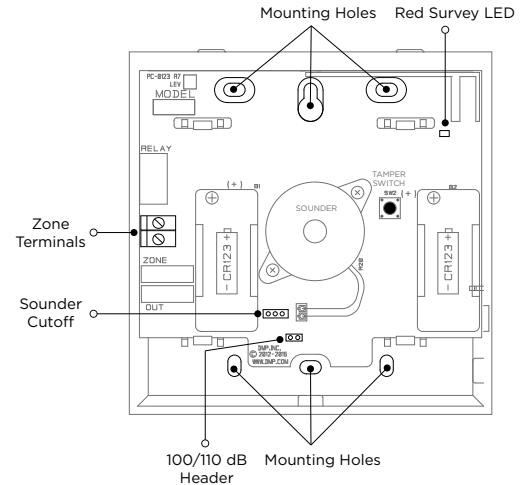

Figure 2: 1119 PCB
4. Place the two 3.0 V lithium batteries in the holders and press into place. See Figure 2 for battery location.
Mount the sounder on a flat surface or single-gang switch box away from large metal objects. See Figure 2 for mounting hole locations.
The sounder is equipped with a 100/110 dB header that changes the decibel output. The default output is 110 dB. If necessary, place the jumper over both header pins to enable 100 dB output. For header locations, refer to Figure 2.